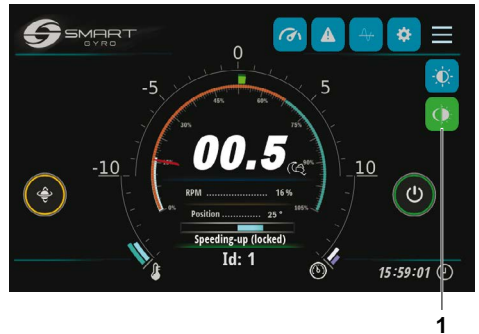

Figure 5
5. Press the night/day selection icon (Figure 5, (1)) to select the desired operating speed.